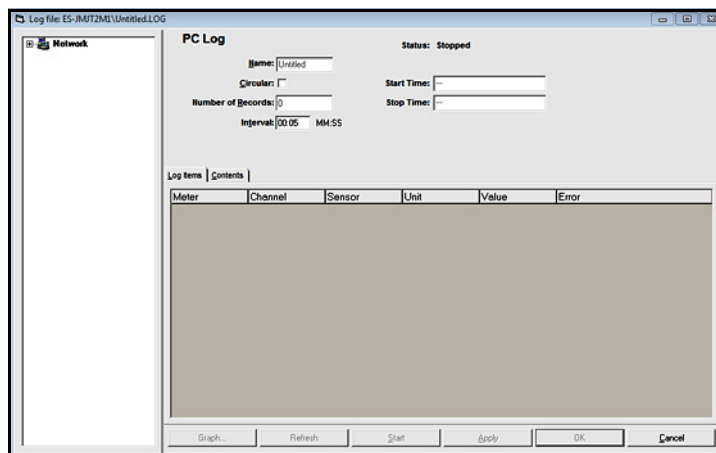

Figure 83: The PC Log Window
7. At the resulting "*PC Log*" window shown in *Figure 83* below, place a check mark in the text box to create a *circular log*, or leave this box empty to create a *linear log*.
8. Enter a sampling *interval* in the text box shown in *Figure 83 on page 67*, or check “Max Comm Rate” to sample data at the fastest speed allowable by the system (1 sec).
- Click “Log Items” tab (see *Figure 83 on page 67*) for a list of the parameters specified for logging).
- Click “Contents” tab (see *Figure 83 on page 67*) for a list of all the data points logged to date for the parameter currently highlighted on the “Log Items” tab).